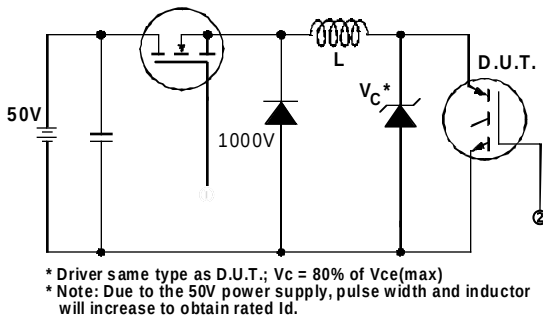

Fig. 13a - Clamped Inductive Load Test Circuit
② $V_{CC} = 80\%(V_{CES}), V_{GE} = 20V, L = 10\mu H, R_G = 10\Omega$, (see fig. 13a)
③ Repetitive rating; pulse width limited by maximum junction temperature.
④ Pulse width $\leq 80\mu s$; duty factor $\leq 0.1\%$.
⑤ Pulse width $5.0\mu s$, single shot.